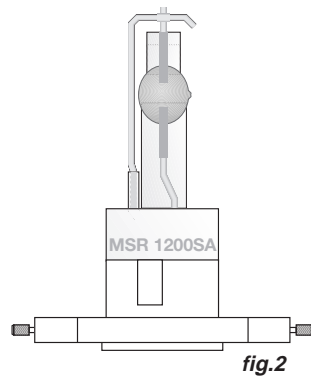

fig.2
4. **(fig.2)** Raise the aluminium support and fit the lamp in the base. Avoid touching the lamp bulb with your fingers. Should this happen, clean it before use with a soft cloth and alcohol, then clean with a dry cloth.